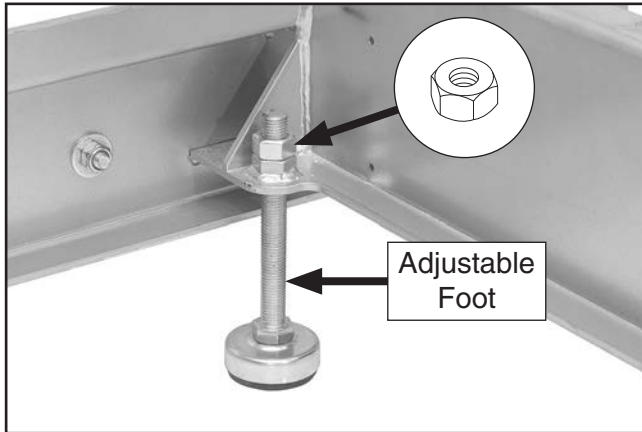

Figure 13. Adjustable foot.
- Attach (4) adjustable feet to each track section. Level track sections by eye and loosely attach M16-2 hex nut to each foot (see **Figure 13**).